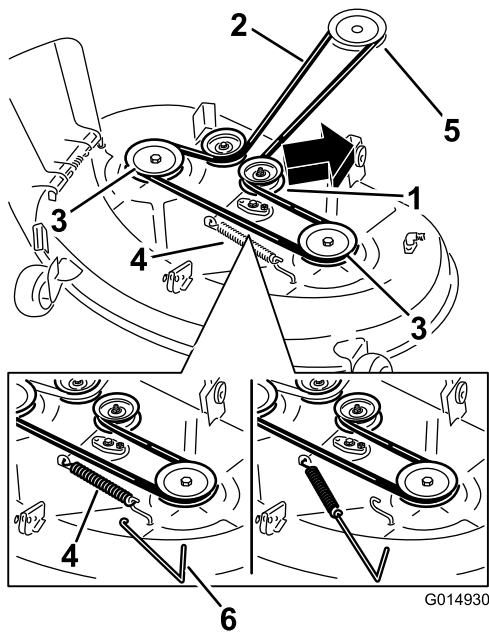

Figure 61
5. Using a spring-removal tool (Toro Part No. 92-5771), remove the idler spring from the deck hook to remove tension on the idler pulley, and roll the belt off the pulleys (Figure 61).
6. Route the new belt around the engine pulley and mower pulleys (Figure 61).
7. Using a spring-removal tool, install the idler spring over the deck hook, and place tension on the idler pulley and mower belt (Figure 61).